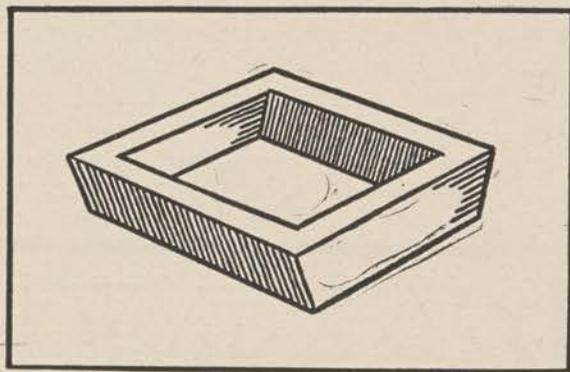

Figure 121.
a. Square or rectangular objects may be made from solid slabs of clay (fig. 121). To construct the ash tray illustrated, paper or cardboard patterns are first prepared for the sides, ends and bottom.